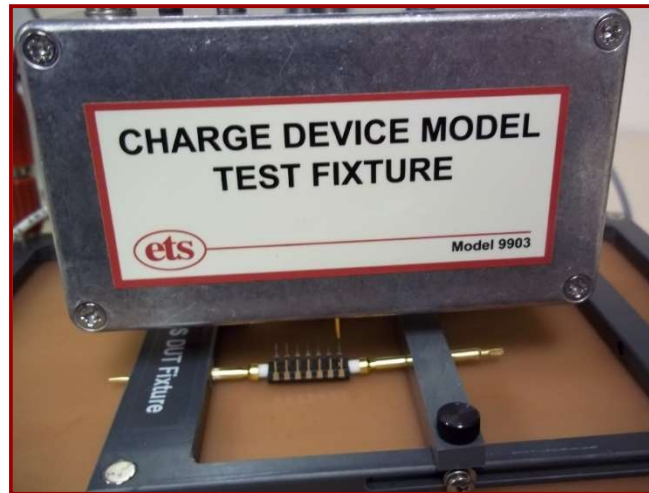

Figure 5.5: DUT/Discharge pin alignment
2. Visually align the spring-loaded pin to the DUT pin to be discharged as shown in Figure 5.5.